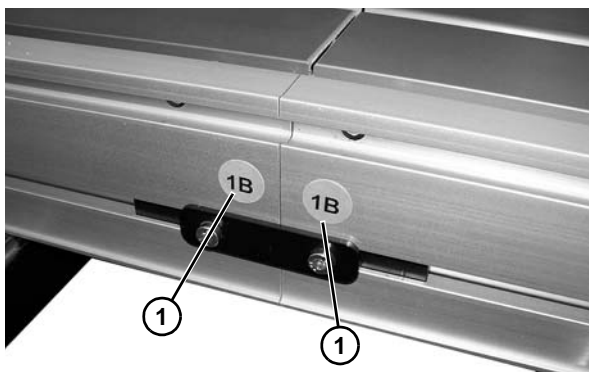

Figure 7
1. Locate and arrange conveyor sections by section labels (Figure 7, item 1).